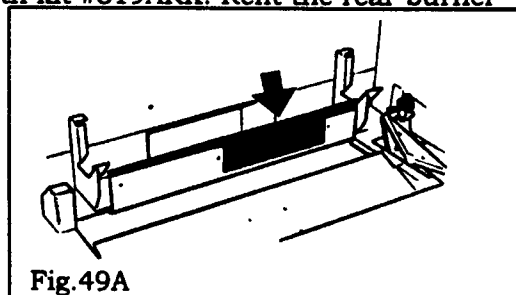

Fig.49A
9.2.2.16 Remove the rear burner tube and fit the burner baffle plate **behind** the rear burner air deflector with three thread cutting screws supplied (Figure 49A). The baffle plate is supplied with kit #819ARK. Refit the rear burner